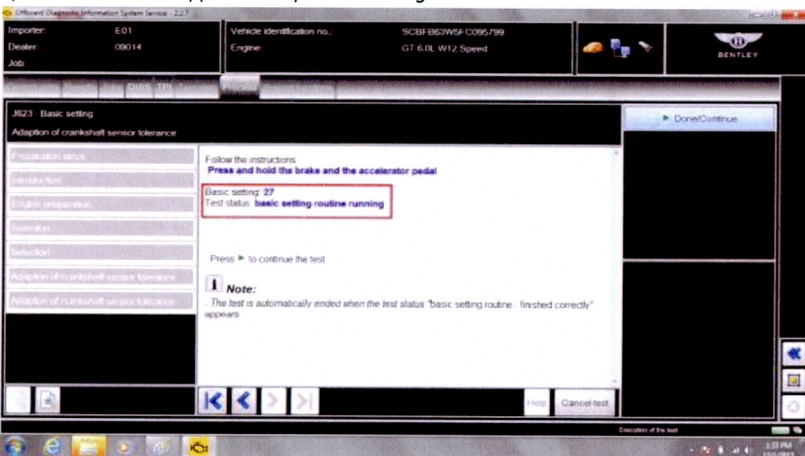

Figure 20
9. With both brake and accelerator pedal held 'on' the test will continue as shown on screen *basic setting routine running* (see Figure 20)